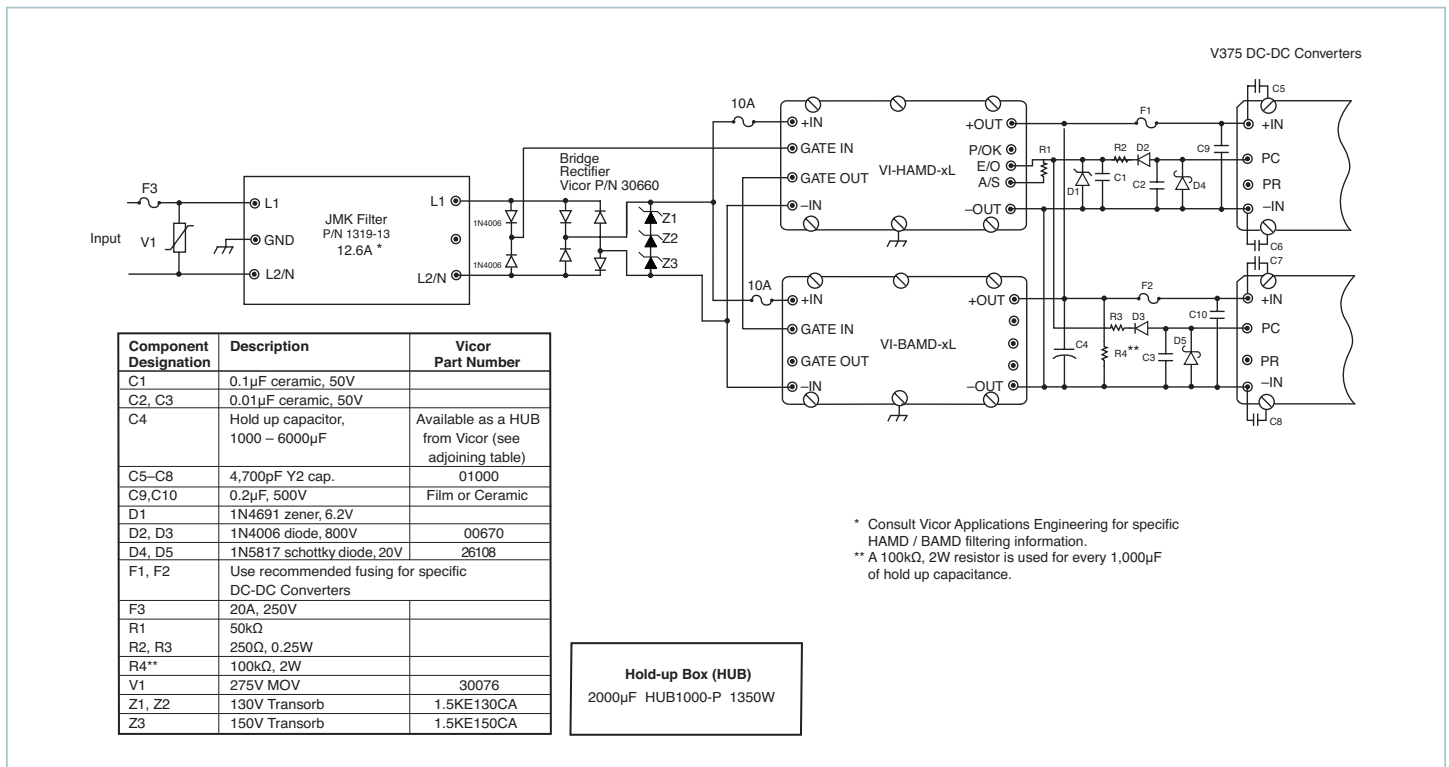

Figure 10.5 — Connection diagram, HAMD / BAMD / V375 DC-DC converters.
The HAMD version does not contain an internal bridge rectifier and is intended for configuring higher-power arrays with Booster versions, referred to as the VI-BAMD (Figure 10.5).
**+IN, -IN (HAMD, BAMD) Pin:** These pins are connected to the output of the external bridge rectifier in HAMD / BAMD configurations (Figure 10.5).
**GATE IN (HAMD) Pin:** This pin provides line voltage envelope and phase information for power factor correction. This connection must be made through the synchronization diodes between the line filter and bridge rectifier (Figure 10.5).